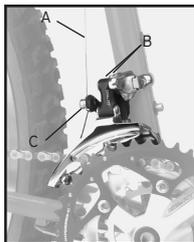

Figure 21- Front derailleur
- Loosen the front derailleur cable clamp bolt (Figure 21) until the cable is free.